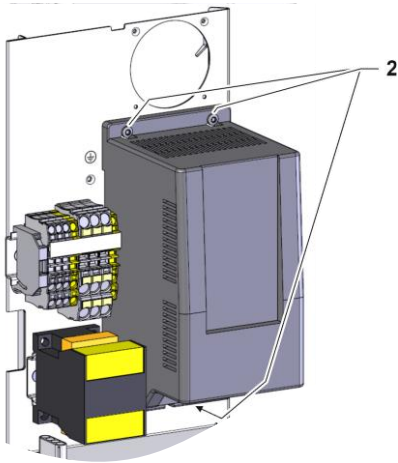

Fig. 2: Remove frequency converter
- Loosen 3x fastening screws (Label 2 → Fig. 2) of the frequency converter (U 1) on the rear wall.